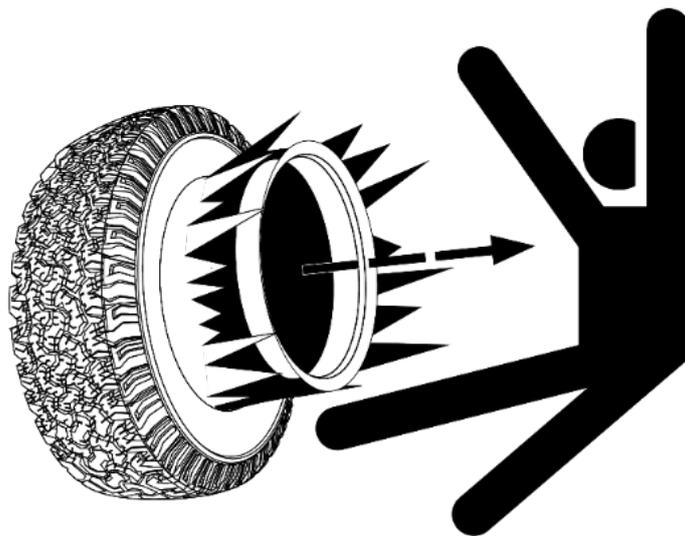

Figure 3-24 Tire explosion risk
1) Inflating may cause tire explosion. A tire explosion may cause fatal injuries, as shown in Figure 3-24.